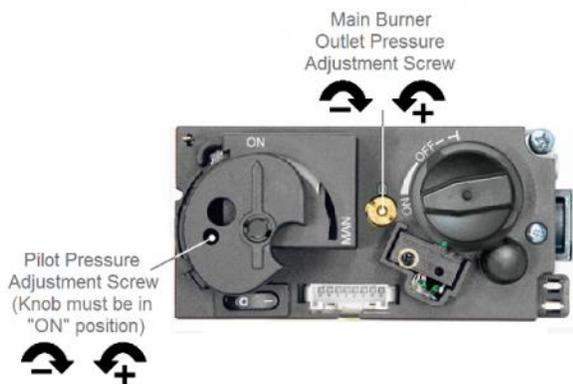

Figure 18 – GV60 Valve Top
1. The adjustment screw can be reached through a hole in the MANUAL knob (see Figure 18).
Convertible regulators are designed to deliver either of two fixed outlet pressures for Natural Gas (NG) or LP Gas. To change from one gas to the other, turn the outlet pressure screw housing (see Figures 18 & 19) counter-clockwise to remove. **Be careful not to engage the small flat slot on the screw itself but use the larger slot of the screw housing to remove the unit.** Unsnap and remove the plastic part, rotate it 180°, and then slide it back on the conversion plug until it snaps. Reinstall the conversion plug by screwing it clockwise until it bottoms out. The low pressure orifice must also be changed (see Figures 20-25, pages 21 -23).